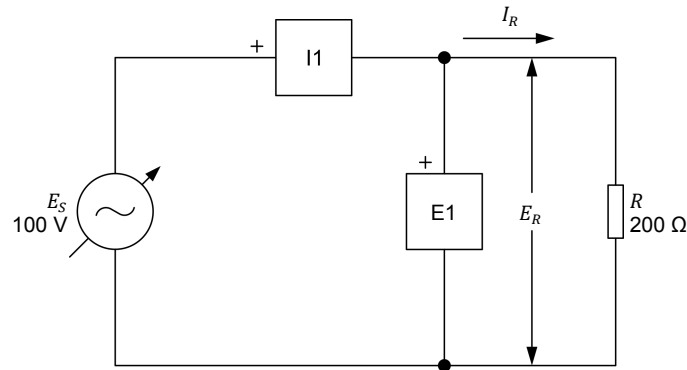

Figure 3-5. AC circuit containing a resistor and set up for power measurements.
7. Set up the circuit shown in Figure 3-5.
9. Calculate the active power P dissipated in the resistor of the circuit shown in Figure 3-5.